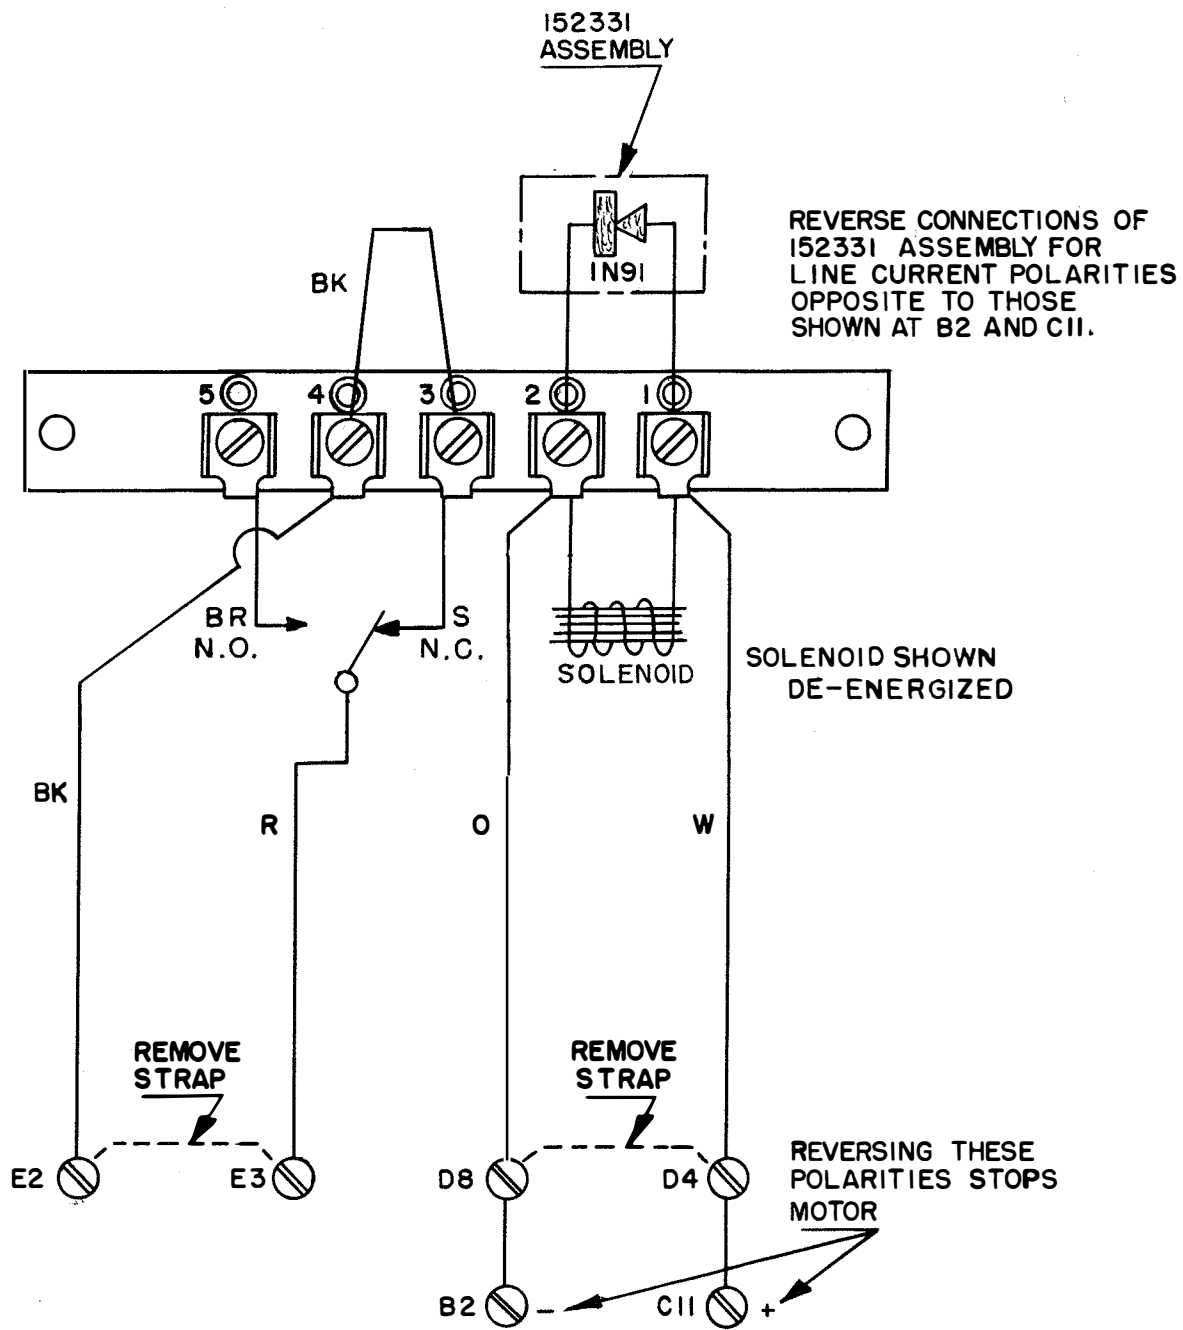

FIGURE 2
### b. Operation upon reversal of telegraph signal line current (Figure 2).
(a) When used in conjunction with Model 28 Keyboards coded LK1, LK3 and LK4, the signaling polarities noted in Figure 2 should be strictly followed. This is because the signal generator filter in these keyboards contains an r.f. noise suppressing rectifier that is effective only when the proper polarity of line current is supplied while the keyboard is generating signals. (The reversal of current when stopping the motor will not harm this rectifier.)
(b) When used in conjunction with Model 28 Keyboard LK5, or any Model 28 Receiving-Only Base Unit (LB), either the polarities shown or their opposites, may be used. When the opposite polarity, from that shown on Figure 2, is to start the motor, the 152331 rectifier assembly is inverted in position between Terminals 1 and 2 of the assembly terminal block.
(2) For operation in series with the signal line for operation on reversal of signal line current (See Figure 2).